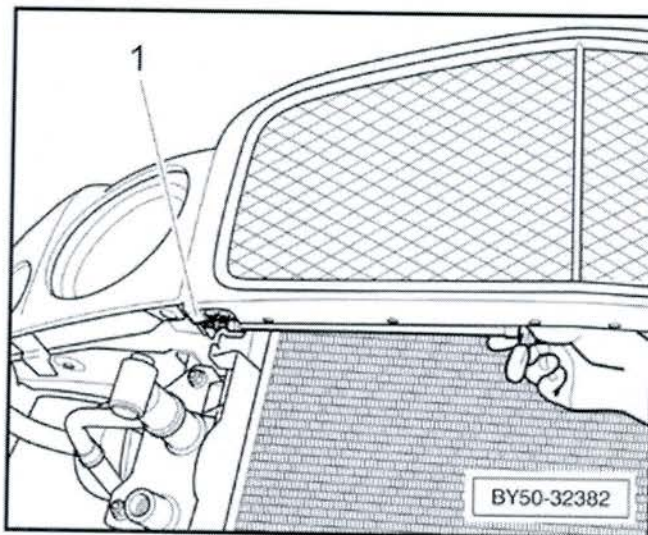

Figure 3 Note: Image shows bumper removed, this is only for illustration purposes
- Working through the front bumper grille aperture, remove the right hand fixing -1- securing the lower corner of the radiator. Carry out the same operation on the left hand fixing (see Figure 3)